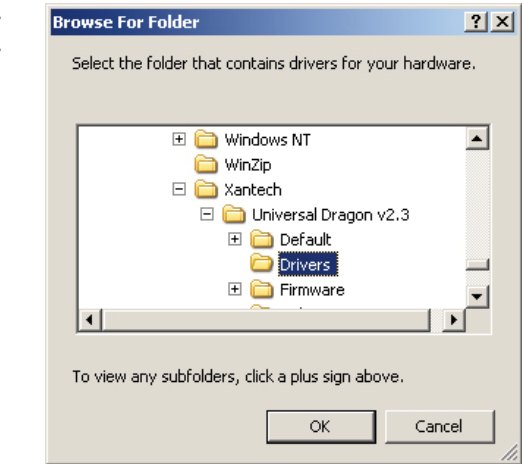

Figure 64: Universal Dragon Drivers folder
3. Navigate to the following folder: C: (or Local Disk) > *Program Files* folder > *Xantech* folder > *Universal DragonvXX.X* folder > *Drivers* folder (see *Figure 64*).